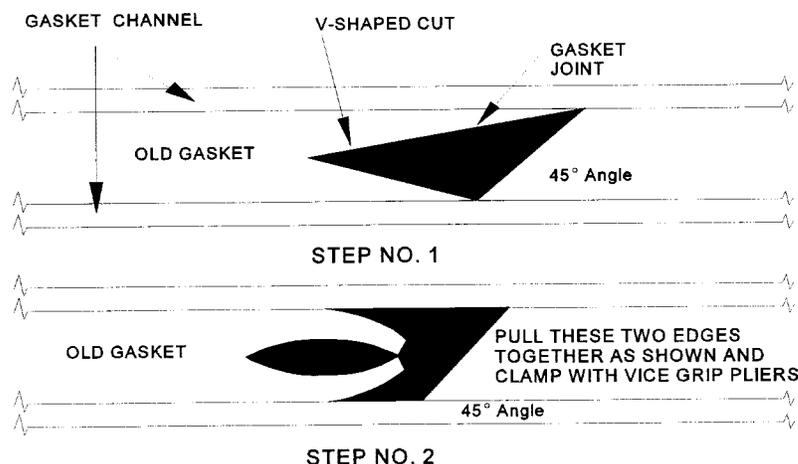

Figure 2-18. Gasket Removal
- d. Using the vice grips as a handle, stretch the gasket and pull from the channel around the entire door. See figure 2-18.